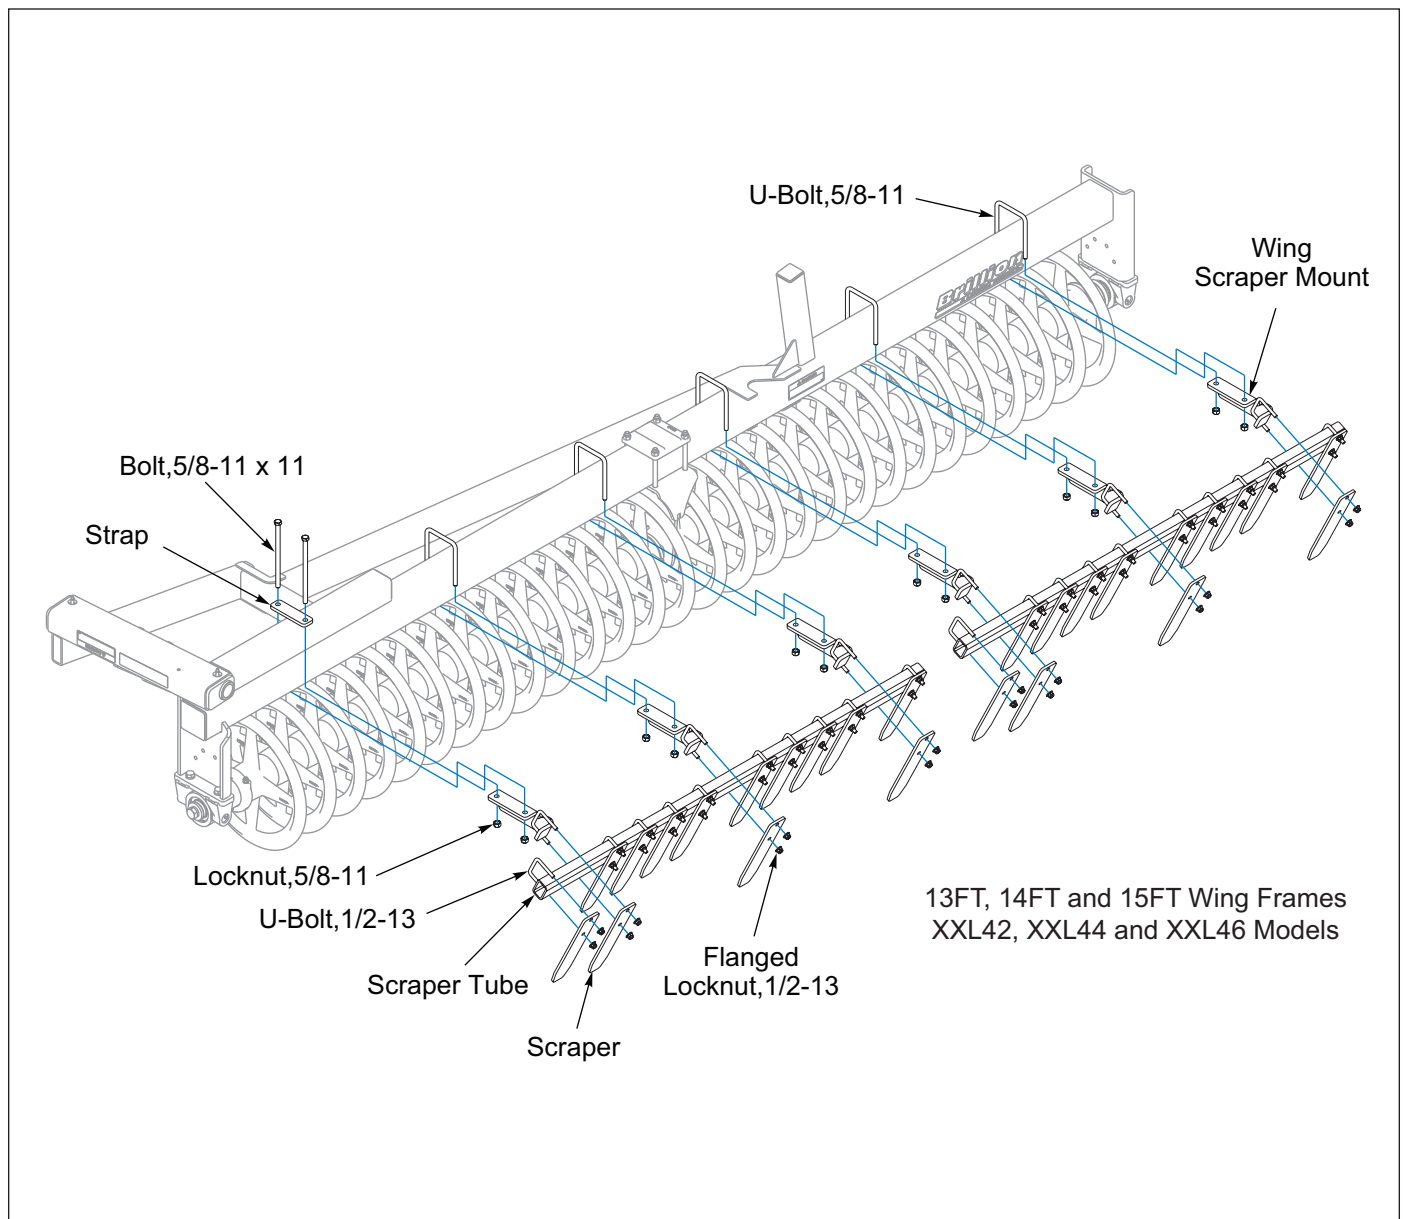

Figure 2-25: Wing V-Wheel Scraper, Double Tube - Optional
1. Place the Wing Rollers on level ground. On the frame double stacked rear tubes by the Wing Hinge, assemble a Wing Scraper Mount to the bottom of the frame rear tube by placing a Strap on the top of the frame double stacked short tube and attaching it with 1/2-13 x 11 Bolts and Flanged Locknuts. Assemble the other Wing Scraper Mounts to the bottom of the wing frame rear tube with 1/2-13 U-Bolts and Flanged Locknuts. **See Figure 2-25.** Do not tighten.